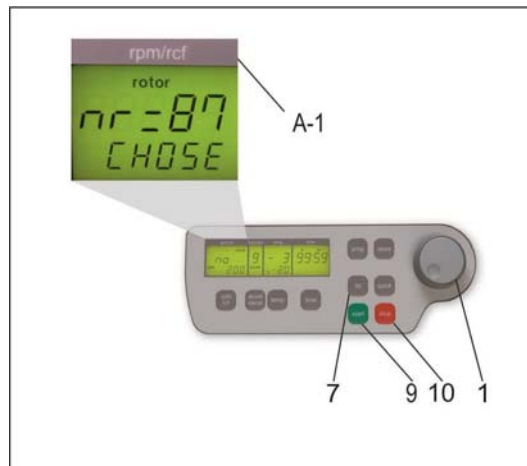

Figure 2
Switch on the unit and open the lid. Now press simultaneously the keys "lid " (7) and "stop" (10). In the display "rpm/rcf" (A-1) then appears the old settled rotor type, i. e. "96". With the potentiometer (1) you can settle the used rotor now. (see figure 2) To adopt the data in the unit please press the "start" (9) key. Inside the display (A-1) the stroke "store" appears to the confirmation.